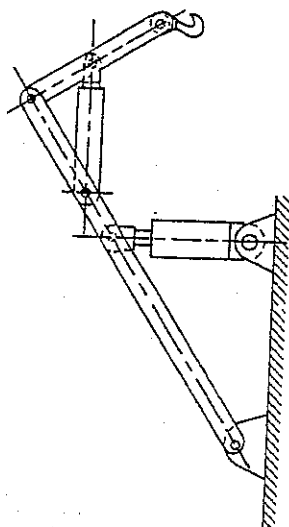

Figure A.27
A.3.10 A hydraulic boom is powered by two cylinders (Figure A.27). Each cylinder has a stroke of 0.7 m and exerts a maximum thrust of 6 tonnes on extend and 4 tonnes on retract. The maximum pump delivery pressure is 200 bar and the pressure drop through the pipes and valves may be taken as 10 bar (including back pressure). Cylinders are to be operated by manual valves. Design the circuit in such a way that only one cylinder may be operated at one time. The extend time for either cylinder is to be 10 seconds. Assume the extended length of the cylinder between pivots is twice the stroke for buckling load calculations. Determine a suitable metric cylinder size and pump delivery. Draw a hydraulic circuit.